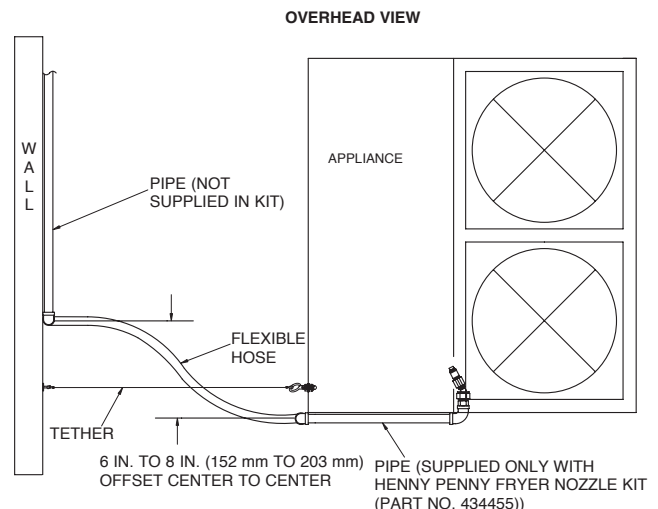

FIGURE 5-9
For all castered appliances, place all hose-to-pipe connection fittings in a vertical down position. See Figure 5-9.
10. Hose ends are to be offset 6 in. to 8 in. (152 mm to 203 mm) center to center of fittings (See Figure 5-9) to maximize hose life expectancy and facilitate appliance movement. With the appliance in its normal operating position, check the hose bend to make certain the bend is not less than a 3 in. (76 mm) bend radius (6 in. (152 mm) diameter). For stationary installations the fittings do not need to be placed in vertical down position and hose ends do not require an offset of 6 in. to 8 in. (152 mm to 203 mm).